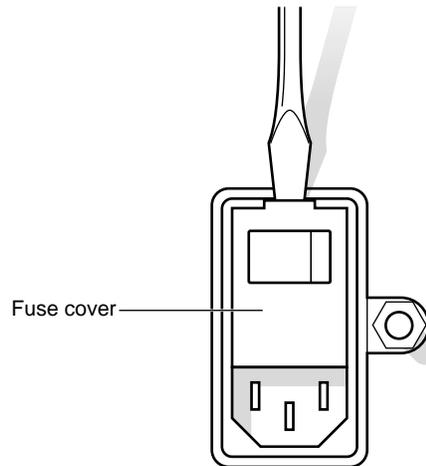

Figure 6-1: Removing the Fuse Cover
- Using the tip of a small, flat-head screwdriver, open the fuse cover as illustrated in Figure 6-1 or, if the screwdriver is too large to approach from the top, place the screwdriver at an angle or use a smaller screwdriver.